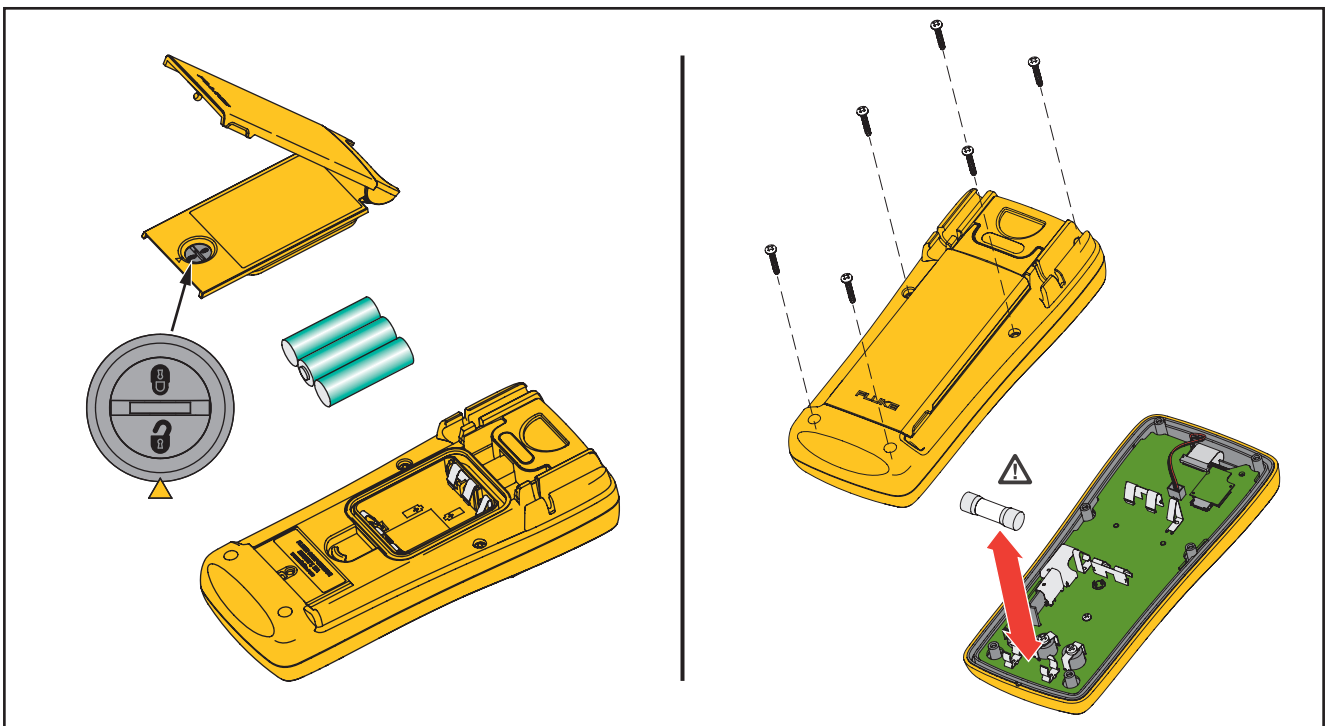

Figure 10. Battery and Fuse Replacement
2. Lift the tilt stand up as shown in Figure 10.
2. As shown in Figure 10, remove six screws from the case bottom.